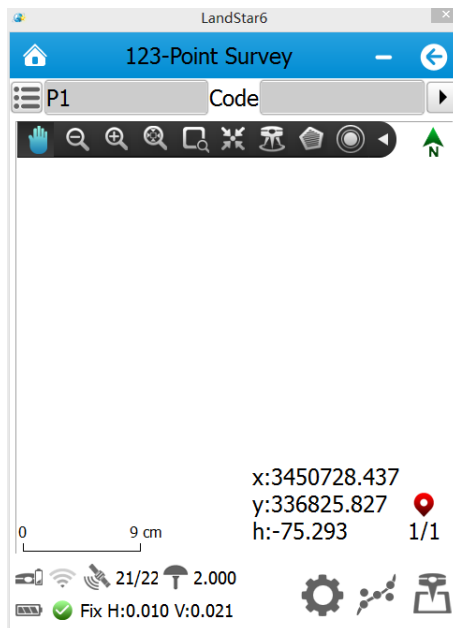

Figure 1
1. Enter **Point Survey** interface, then click **[Set **], as shown in figure1